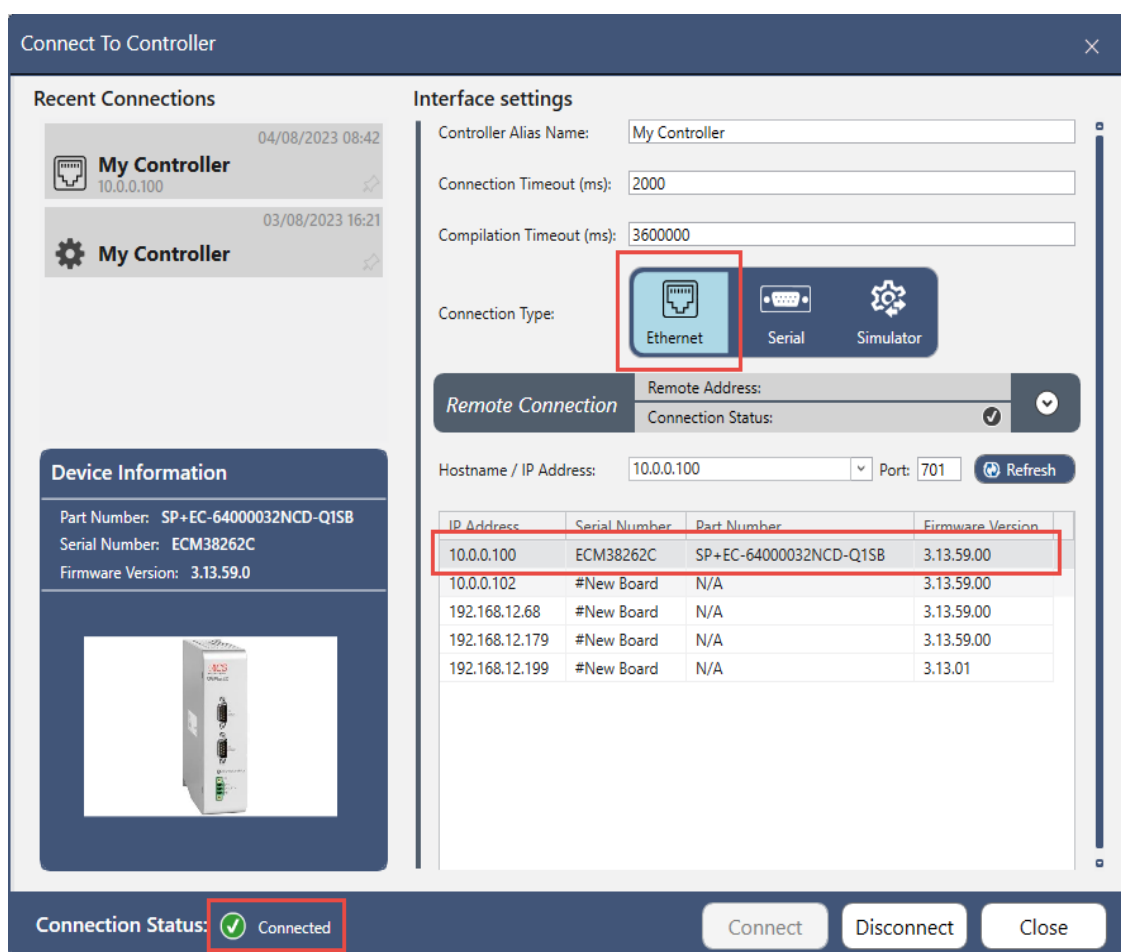

Figure 4-4. Select the Ethernet Connection
5. In the **Connect to Controller** window, click on **Ethernet** for the Connection Type. This displays the available Ethernet connections (see Figure 4-4).
6. In the **Connect To Controller** window (Figure 4-4), select the Controller with the IP address 10.0.0.100 (the default IP address of the Controller). At the bottom of the window, click on **Connect**.
7. The connection status at the bottom left of the window shows a green check mark when the controller is connected to the MMI, as shown in Figure 4-4.